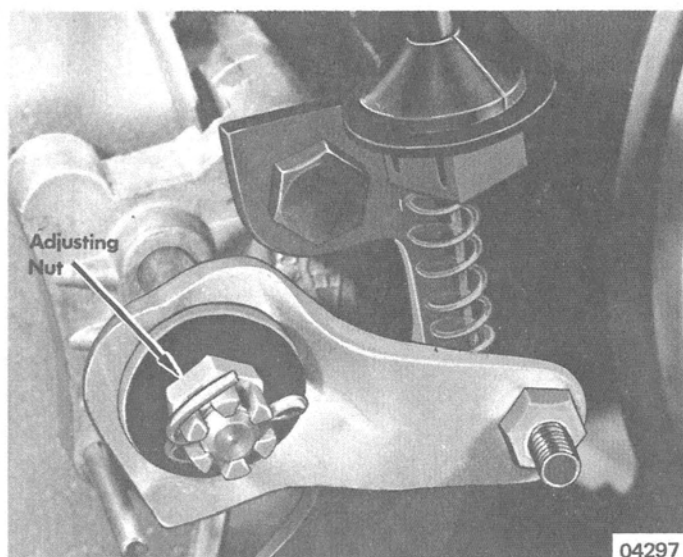

Figure 5. Brake Assembly
- c. Remove cotter pin from brake assembly. (Figure 5)